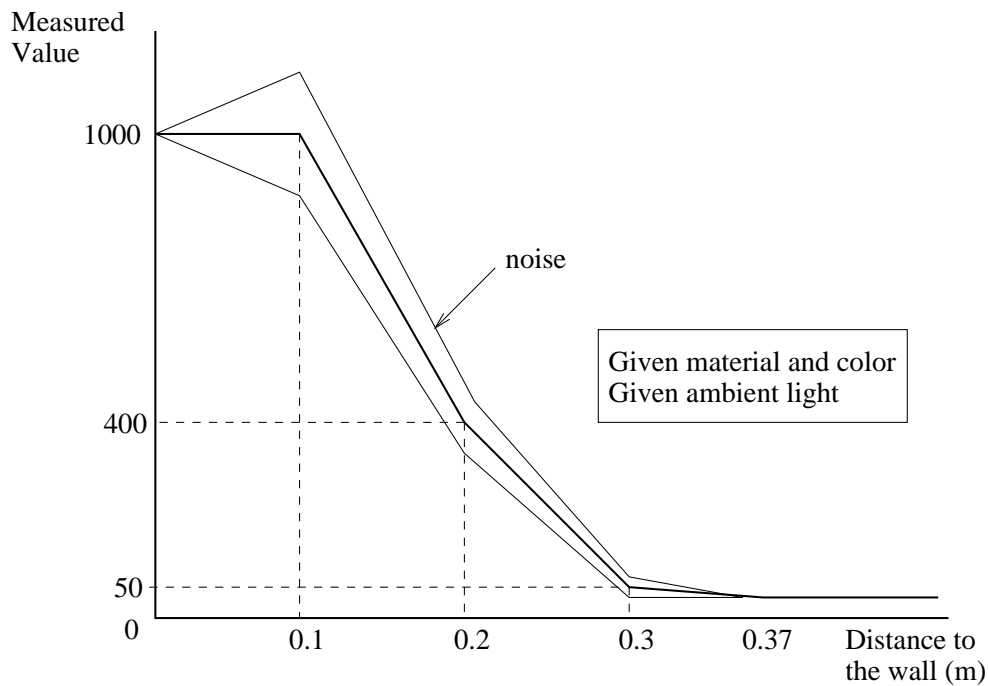

Figure 3.5: Measurements of the light reflected by an obstacle
- `lookupTable`: This field is best explained through an example: Let us consider an infra-red sensor. The white noise on the return value is 10 percent. For an obstacle made of a given material and color and for a given ambient light, the response of the sensor is as shown in figure 3.5